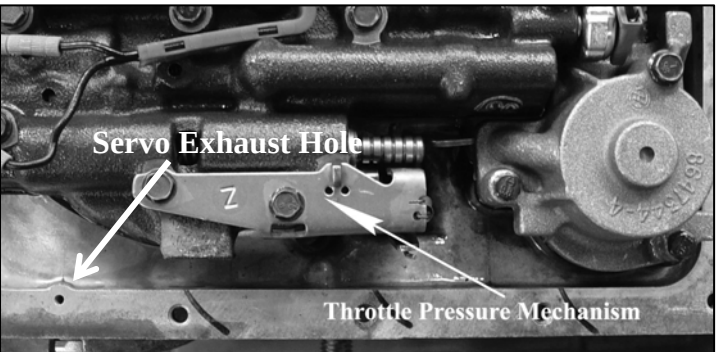

Figure 8
Step 16 Clean all old gasket material from the oil pan and the case. Wash pan in solvent and install with new pan gasket supplied. Do not use any gasket sealer. Make sure servo exhaust hole is not plugged or stopped up (**See Figure 8**). When cleaning gasket material, some could have accidentally gotten into this opening. Install pan bolts and tighten to 10 foot pounds. TCI® offers a deep aluminum pan (TCI® 378000) for this transmission.